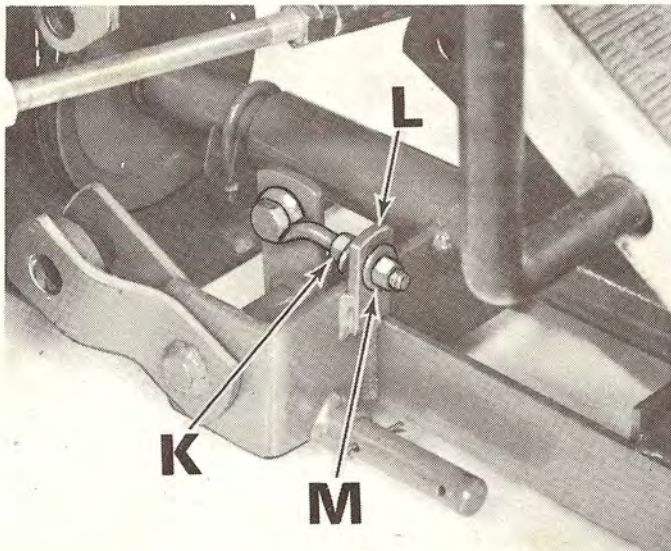

Fig. 19
**NOTE:** For adjustment of Small Gear Box V-Belt & Pitman Drive Belt see Page 13, Figures 19 & 20.
### SMALL GEARBOX V-BELT FIG. 19